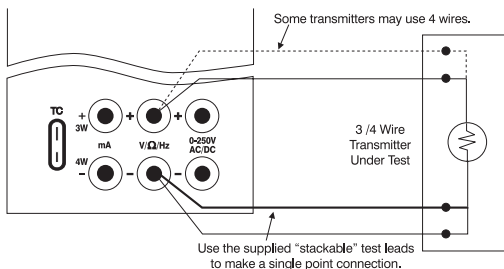

Figure 10.
1. As described previously in section F the MC1000 can source resistance in a RTD Transmitter or measuring device. In many cases the unit under test will require a 3 or 4 wire connection to achieve best accuracy. Refer to Figure 10 for connection information.